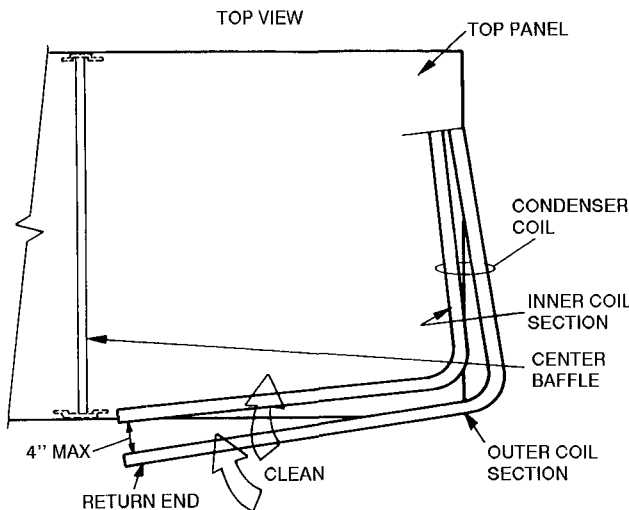

Fig. 14 — Separating Coil Sections
4. Remove device holding coil sections together at return end of condenser coil. Carefully separate the outer coil section 3 to 4 in. from the inner coil section. See Fig. 14.